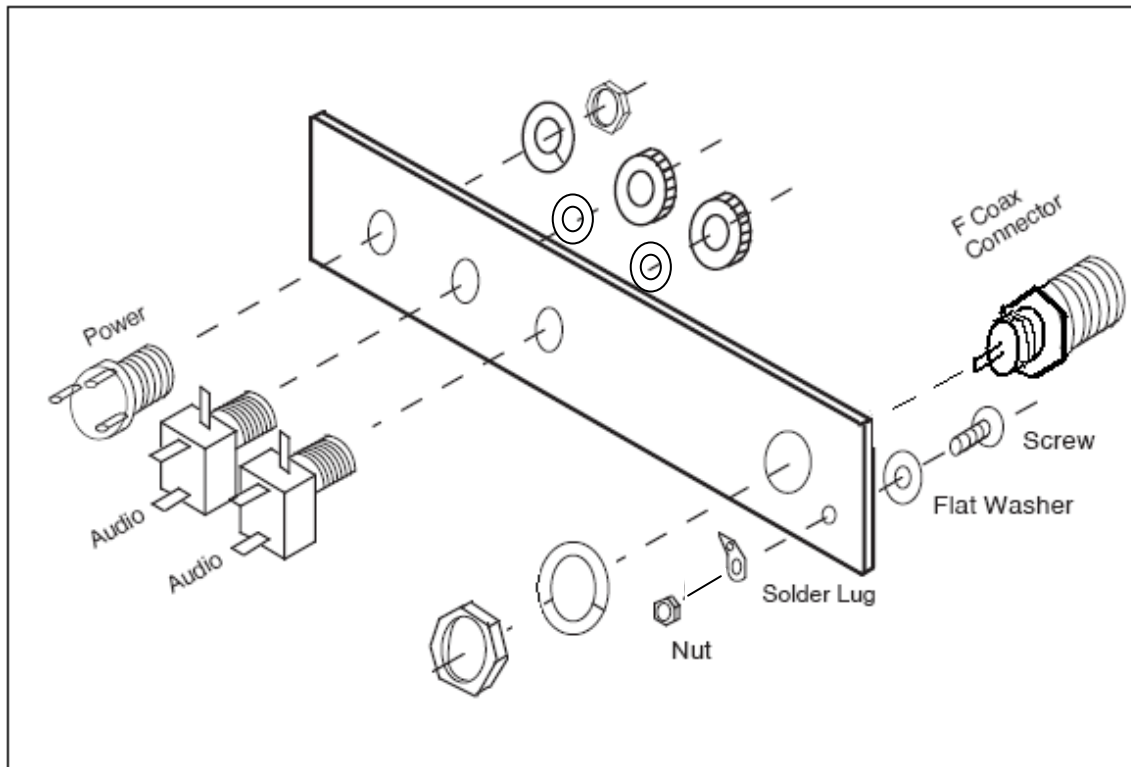

Figure 8. Rear panel assembly
3. □ Mount the power connector, two audio jacks, the antenna connector, and a solder lug to the rear panel (Figure 8). Power and audio connectors are passed through the panel from the “inside” with washers and nuts located on the decal side of the panel. The F-coax connector is inserted from the decal side with washer and nut on the inside. Tighten the nuts firmly with a crescent wrench or pliers.